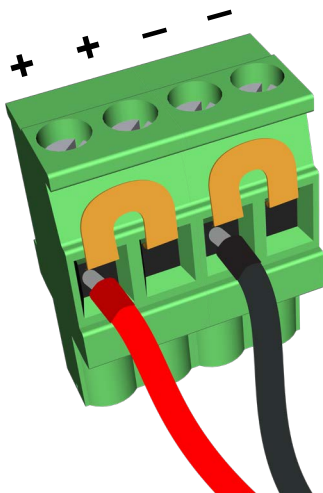
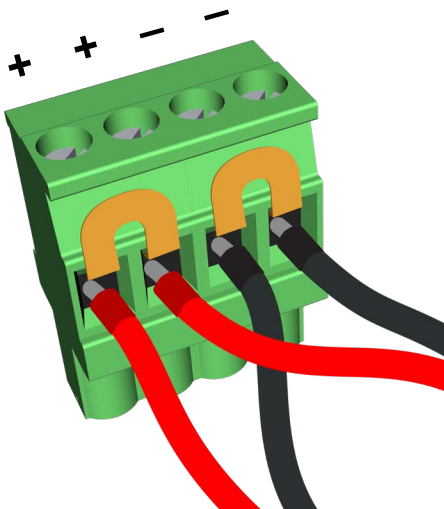

Figure 5a. Wire single loudspeaker
Figure 5b. Daisy chain multiple loudspeakers
7. Attach the loudspeaker cables according to whether you are connecting a single loudspeaker (Figure 5a) or daisy chaining more than one (Figure 5b).